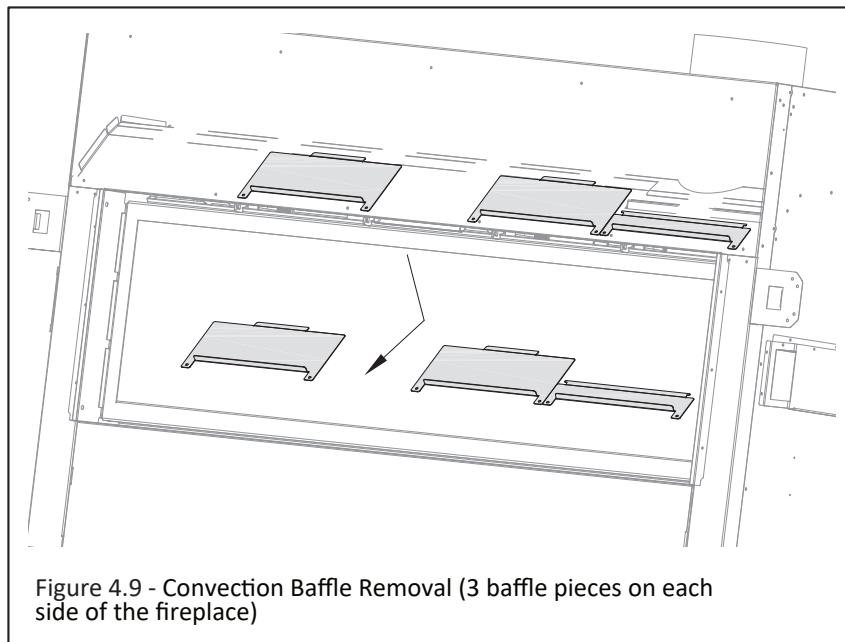
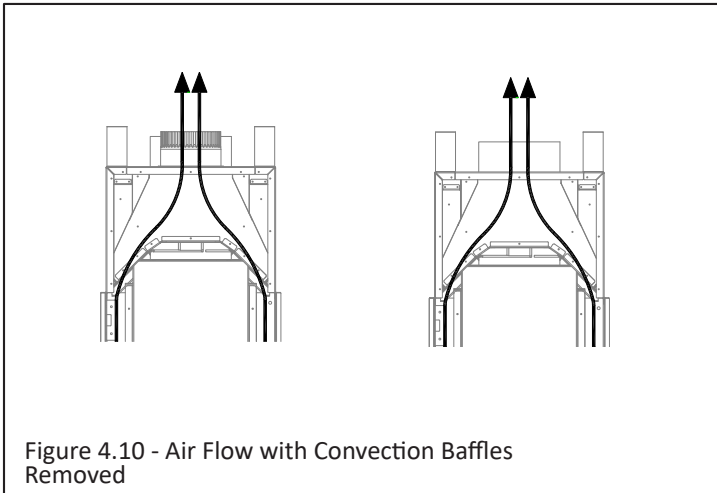

Figure 4.9 - Convection Baffle Removal (3 baffle pieces on each side of the fireplace)
Figure 4.10 - Air Flow with Convection Baffles Removed
2. Remove the convection baffles from the appliance. Recycle these panels as they are no longer needed. The (6) baffles are secured by (2) screws each behind the upper edge of both fireplace openings. Each side of the fireplace has (3) convection baffles to be removed. See Figure 4.9 and Figure 4.10.